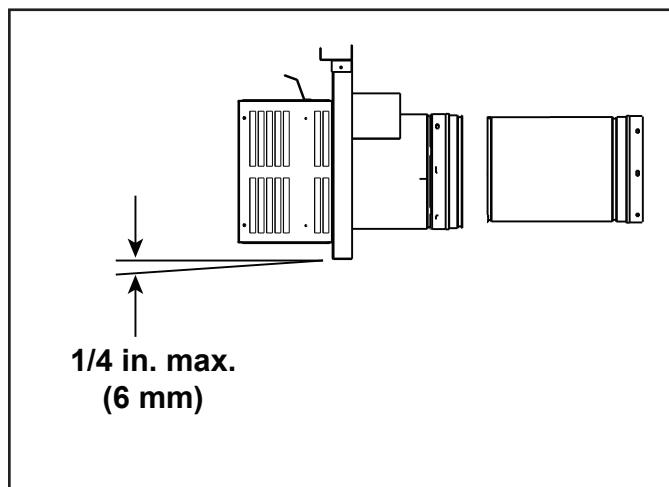

Figure 5.17
- Horizontal termination cap should have a 1/4 inch downward slant to allow any moisture in cap to be released. See Figure 5.17.